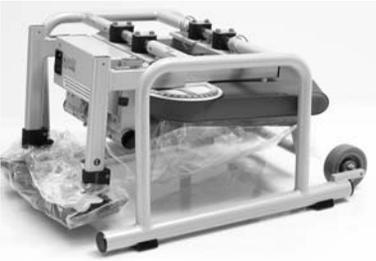

Fig. 2
- Replace the fuses and reinsert the fuse holder (Fig. 2). Check that the fuser holder locks properly into place.